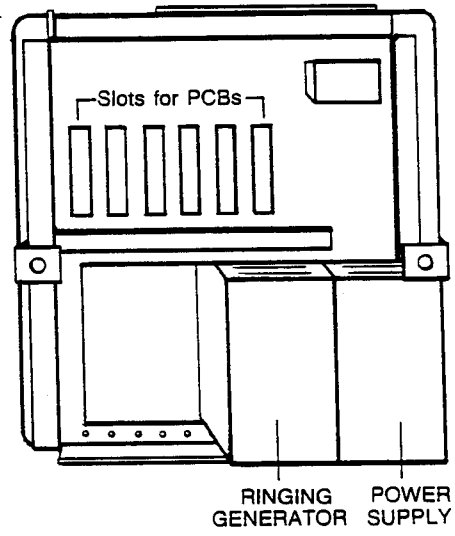
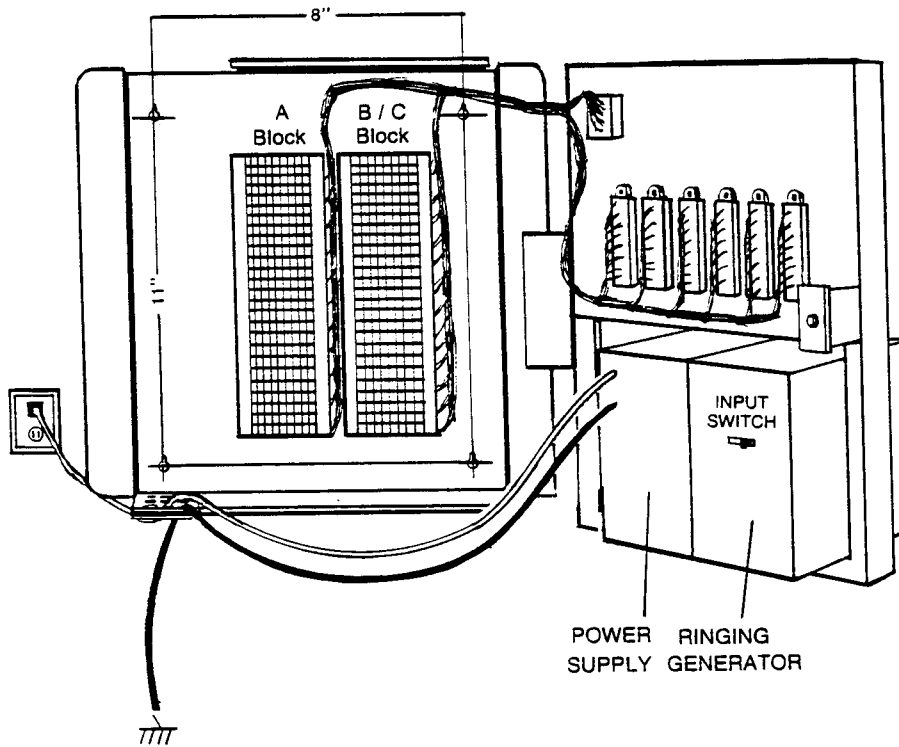

Figure 1 6 CARD KSU OUTSIDE VIEW
Figure 2 6 CARD KSU WITH HINGED SHELF OPENED
1.04 The 6 Card KSU is designed for wall mounting and holds a maximum of 6 B-OPX-A PCBs. These boards are inserted into the hinged shelf or rack (Figure 1). The 48V Power Supply and Ringing Generator are mounted inside the KSU cabinet (Figure 2). The shelf containing the PCBs is hinged so that it can be opened to provide access to two 50-pin connecting blocks. One block is split.